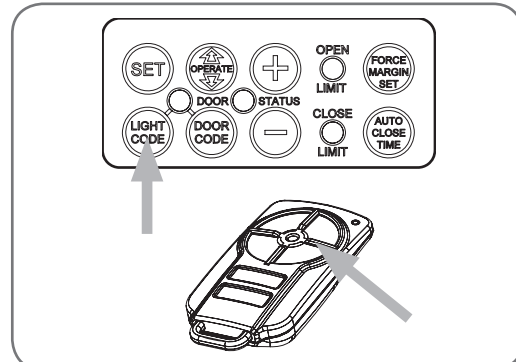

fig 34
- Press and hold LIGHT CODE button (**Fig.34**).
- Press one of the four buttons on the transmitter for two (2) seconds, pause for two (2) seconds, then press the same button again for two (2) seconds.